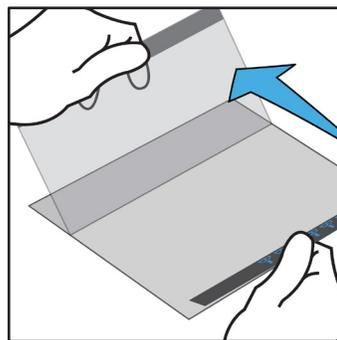
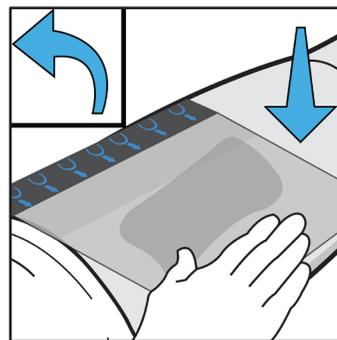
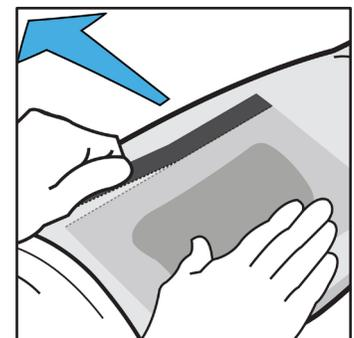

Figure 6
Figure 7
Figure 10
10. Remove the drape's release liner starting with tab A (**Figure 6**). Invert and place over the foam and peri-wound (**Figure 7**) and continue removing the contact layer with B tab and C tab (**Figures 8-9**). Remove the remaining perforated tab (**Figure 10**). Gently press down on drape material down around the wound site and over the foam to ensure dressing is properly sealed.